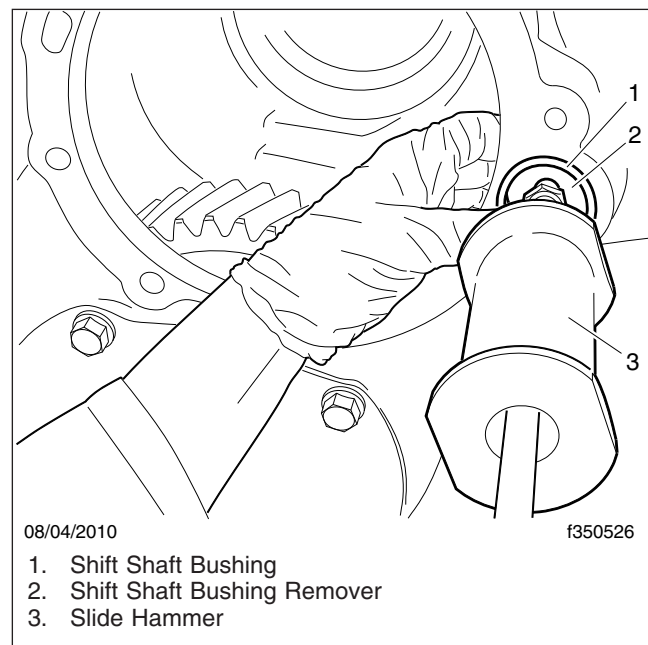

Fig. 5, Installing the Bushing Remover
17. If the brass shift shaft bushing is damaged or worn, assemble the slide hammer and shift shaft bushing remover (see Table 1), and slide the hammer handle to remove the bushing. See Fig. 5.